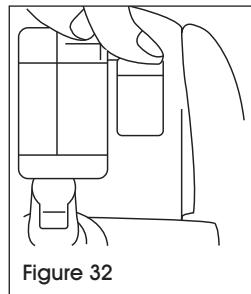

Figure 32
5. Return battery pack to space and attach battery terminals. (See Figure 32)